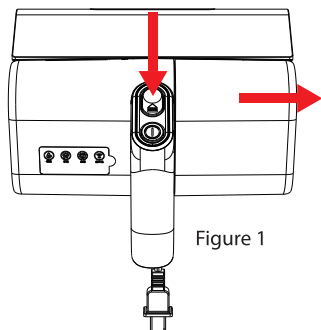

Figure 1
- **Remove the Dust Cup:** After use, press the dust cup release button and pull the dust cup out to the right from the machine (Figure 1).